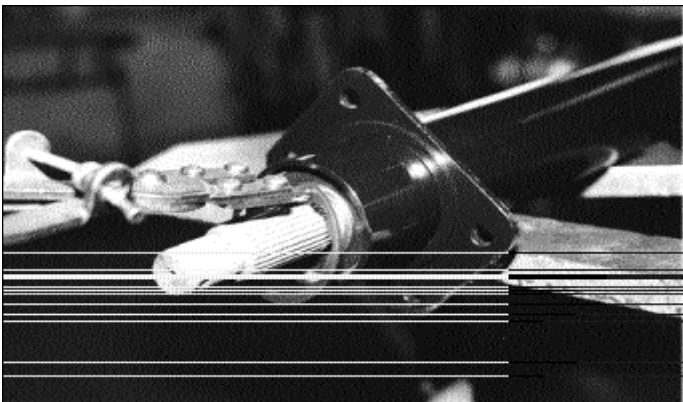

Figure 28 - Remove Snap Ring from Axle Housing
9. To remove axle from axle housing, remove retaining rings at outer end of axle housing. Pull outward to remove axle. **Do not** re-use retaining rings. See Figure 28.
9. Install the axle shafts and bearings (6205DD) into the axle housings. Use care not to damage oil seal in the axle housing when installing axle shafts. Secure in the housing with a new 52 mm snap ring. See Figure 28.